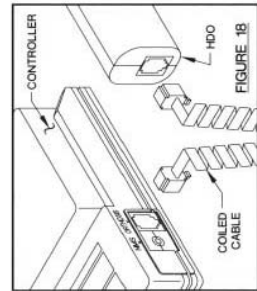

FIGURE 18
- 7 Connect coiled cable between HDO and controller see **Figure 18**.